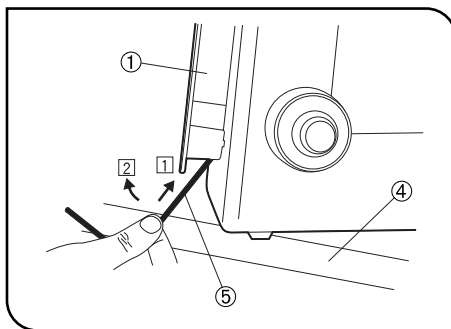

Fig. 8
Move the microscope frame to the edge of the table ④, apply an Allen wrench ⑤ onto the lower part of the cord hanger ①, and move the entire hanger upward by pushing the Allen wrench toward the directions ① and ② to remove. (Fig. 8)